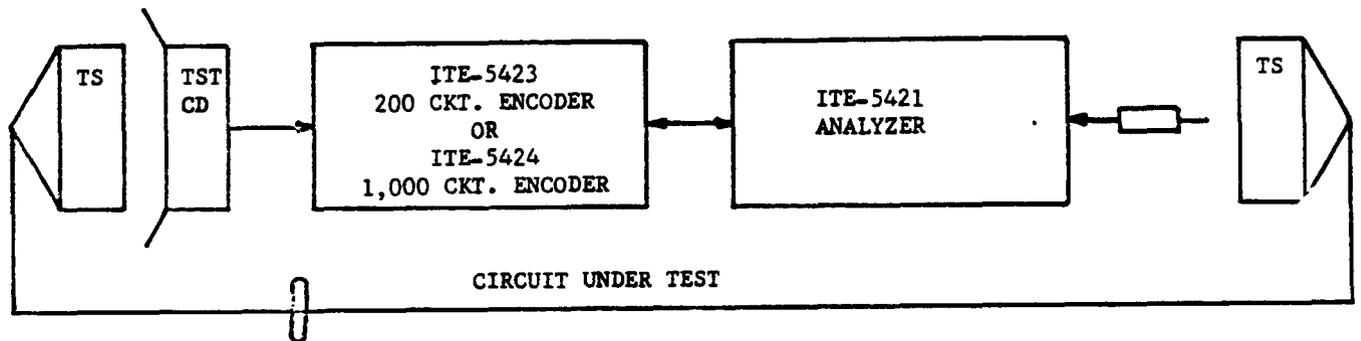
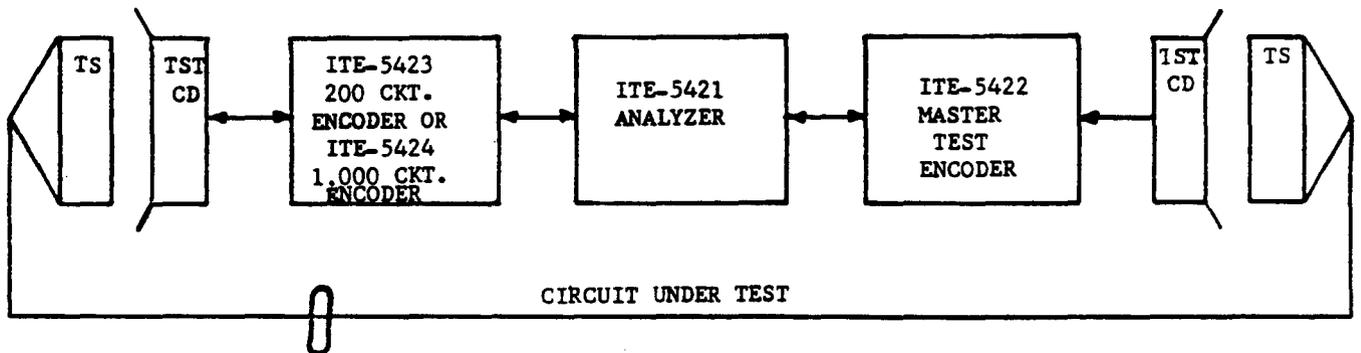

FIG. 11 MANUAL PROBING SETUP
FIG. 12 AUTOMATIC SCAN SETUP
- 4.35 There are basically two test operation setups: Manually Probing (Figure 11) and Automatic Scan (Figure 12). These figures are block diagrams to be used as guides to setup the ELVS in typical manual and automatic situations.
Step 1: Set up the ELVS to perform a manual probing operation (Figure 11) using the ITE-5421 Analyzer at the terminals to be probed, and either the ITE-5422 Master Test Encoder or the ITE-5423 200 Circuit Encoder at the remote terminals to be interfaced with the ELVS via test adapter cords.
- 5.32 The SHORTS Mode is used for continuity verification operations when manual probing is the most feasible method of interrogating leads under test (refer to Figure 11 for illustrations of a manual probe operation setup).
- 5.33 The VERIFY Mode is used for continuity verification during an automatic scan operation. In this mode, short circuits, wire reversals, and open circuits will affect an alarm and a display of the trouble condition (Refer to Figure 12 for illustrations of an automatic scan operation setup).